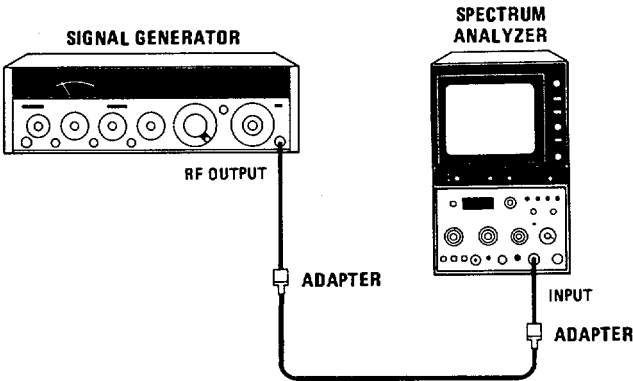

Figure 4-7. Noise Sideband Test Setup
- 2. Connect equipment as shown in Figure 4-7.